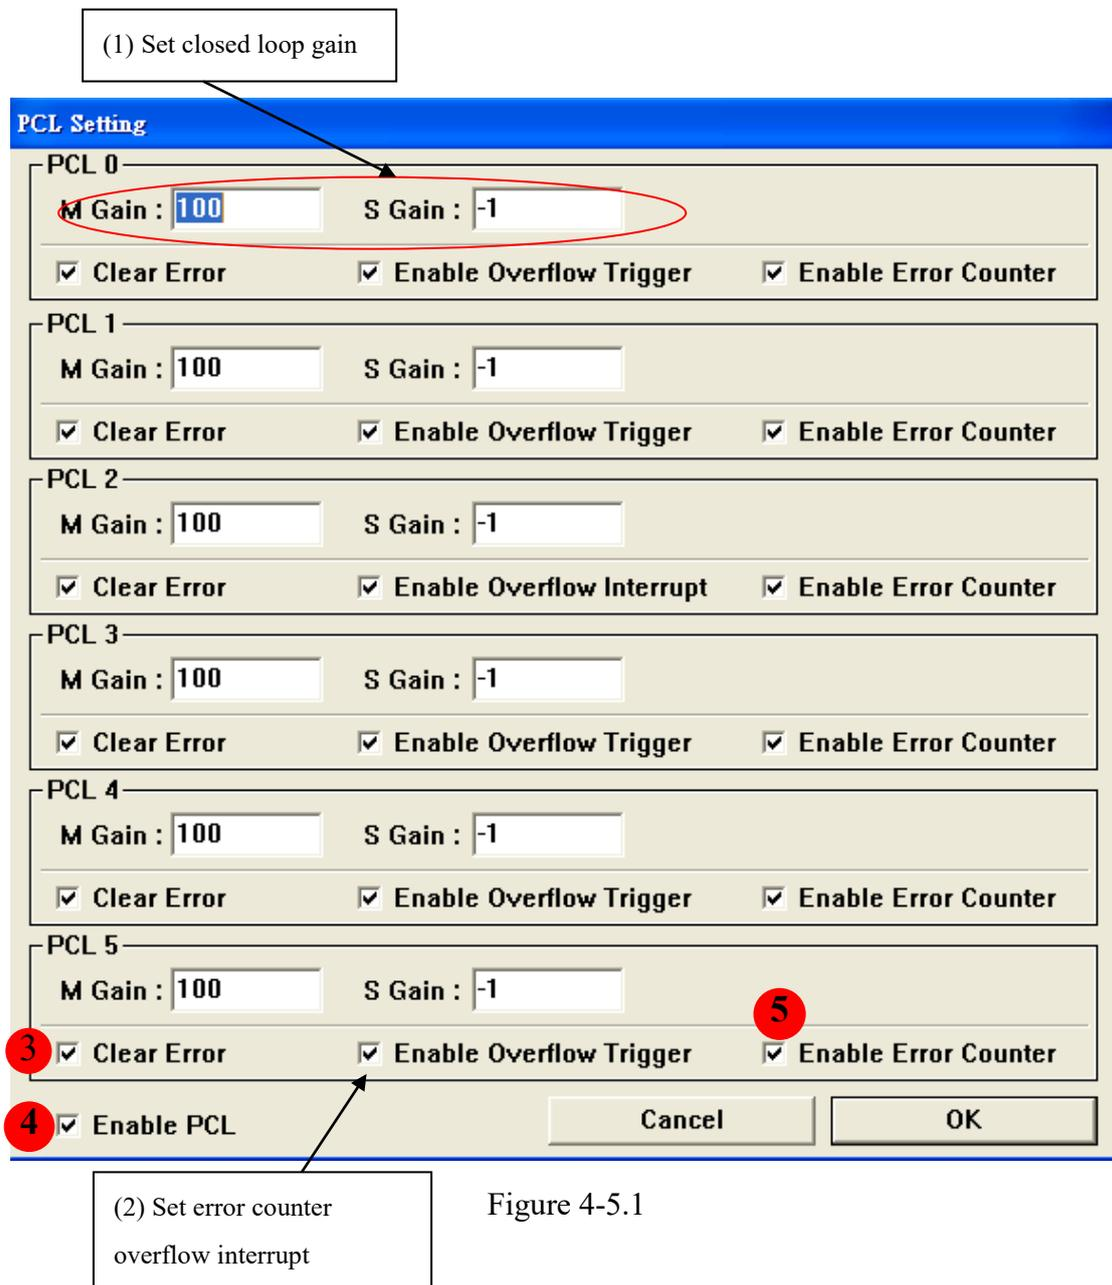

Figure 4-5.1
(1) Set closed loop gain (as shown in Figure 4.5-1)
(2) Set overflow interrupt (as shown in Figure 4-5.1)
(3) Set error counter clear (as shown in Figure 4-5.1)
(4) Set closed loop enable (as shown in Figure 4-5.1)
(5) Set enable error counter (as shown in Figure 4-5.1)